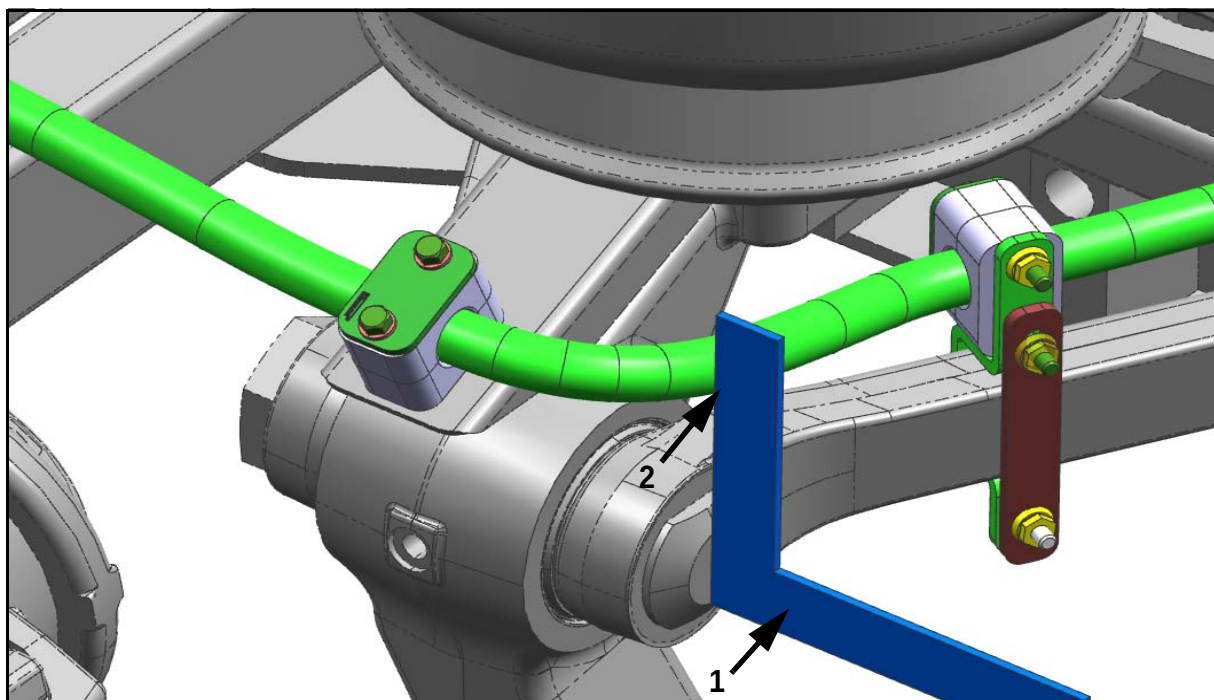

Figure 18. ← **was - Figure 16**
- was - 44** 46. Position a square across the face of the suspension arm bolt head (refer to **Figure 18**). Using a measuring tape, ensure that there is a minimum clearance of 0.06 inch between the edge of the front brake hose assembly and the edge of the square.
Item	Figure 18 Description